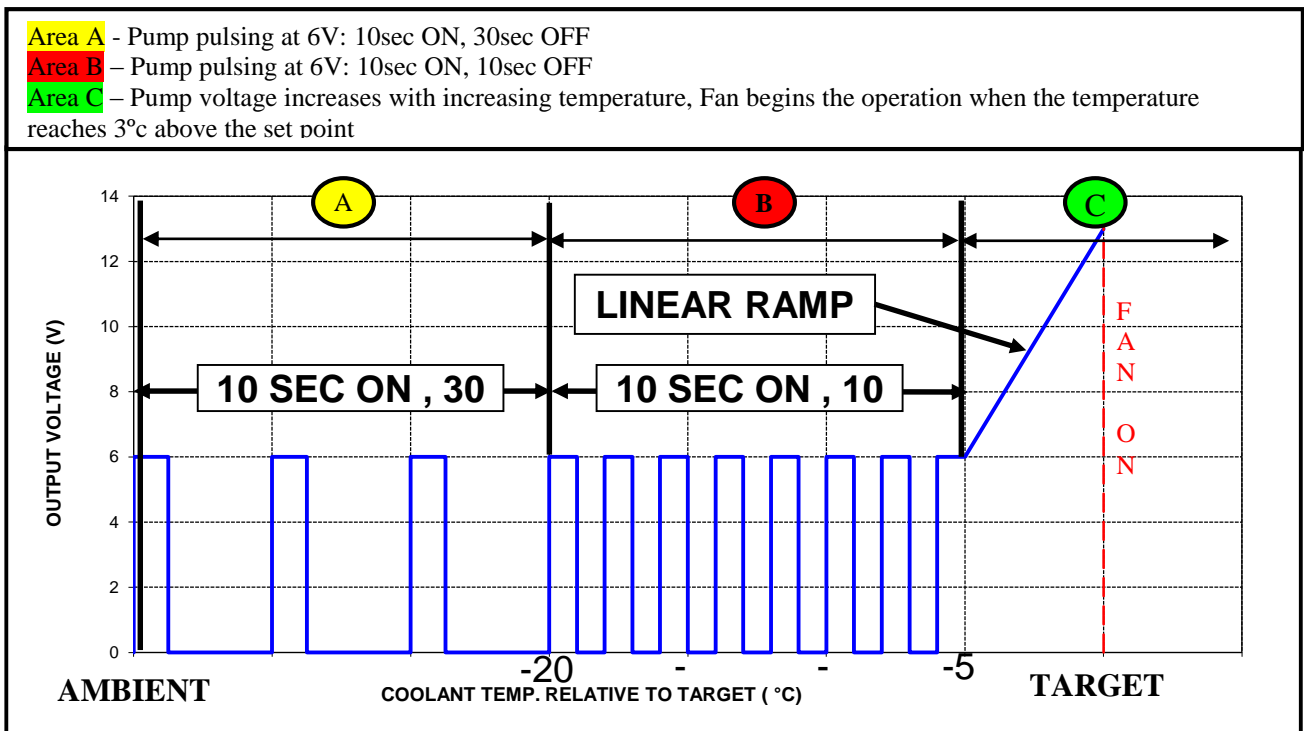

Figure 4: Digital Controller Operation Curve.
Figure 4 shows the operational curve of the EWP®. The 'set point' is the temperature at which full system voltage is supplied to the EWP®. The 'set point' can be programmed to any of the nine (9) 'set points' shown on the screen:
FLASHING = EWP® operating in 'pulsing' mode – Refer Figure 4, areas (A) (B) (C) & .